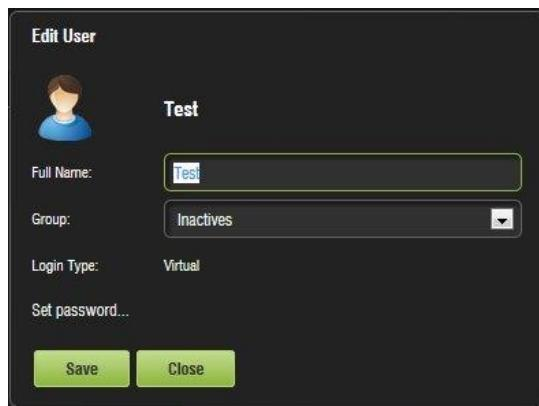

Figure 173: Account Manager GUI – User Properties Editing
- The following dialog box will appear allowing the user to edit the user properties but not the username or the login type (Figure 173).